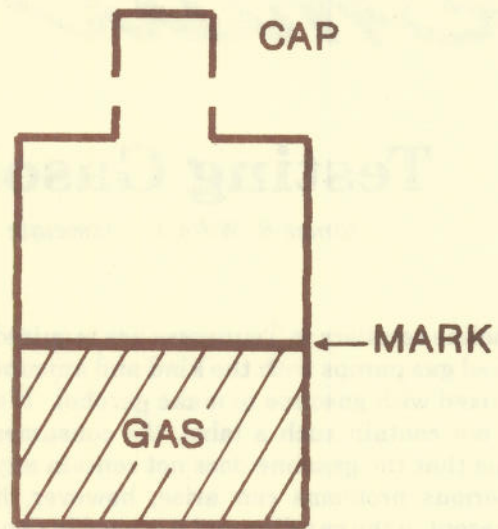

FIGURE 2
**Step 2.** Pour a measured amount of the gasoline to be tested into the glass container (use an amount slightly less than one-half the total capacity of your container). Using a marker or tape, make a line on the outside of the container marking the top of the gasoline level in the container. Note that the gasoline will have some color to it. It will not be clear (Figure 2).